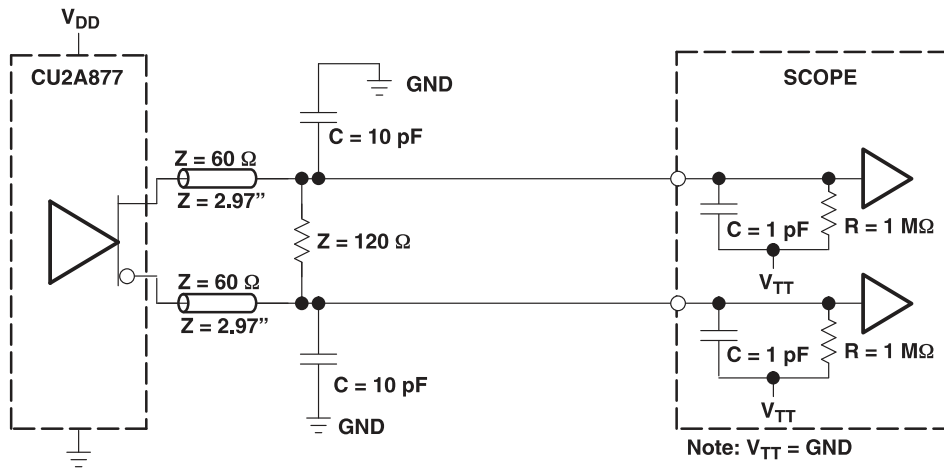
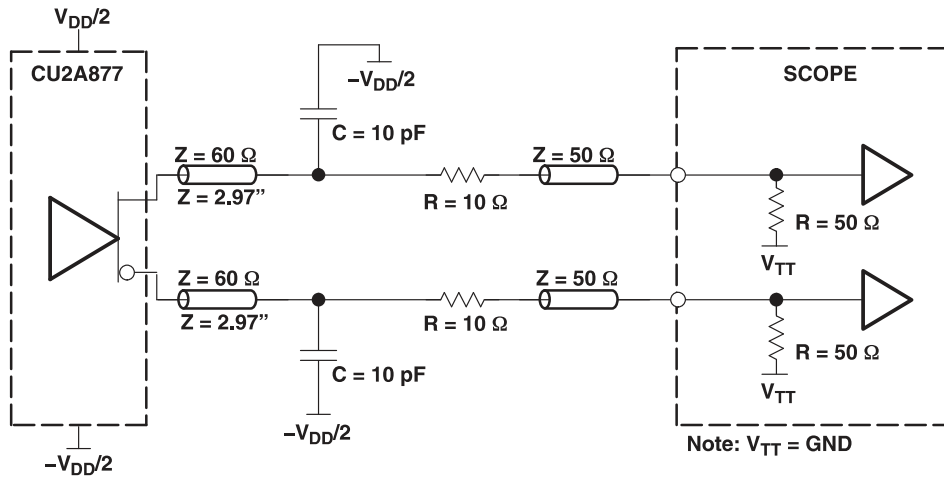
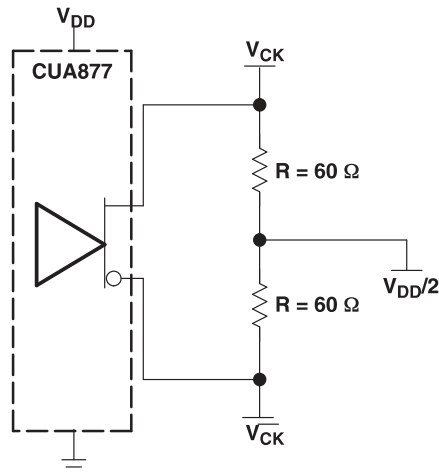

Figure 2. Output Load Test Circuit 1 (Using High-Impedance Probe)
Figure 3. Output Load Test Circuit 2 (Using SMA Coaxial Cable)
Figure 4. IBIS Model Output Load
| I _{OH} | High-level output current (see Figure 2) | | | –18 | mA |
| I _{OL} | Low-level output current (see Figure 2) | | | 18 | mA |
| SR | Slew rate, OE | See Figure 3 and Figure 8 | 0.5 | | | V/ns |
| | Input clock skew rate | See Figure 3 and Figure 8 | 1 | 2.5 | 4 | |
| | Output clock slew rate ⁽⁷⁾⁽⁸⁾ | See Figure 3 and Figure 8 | 1.5 | 2.5 | 3 | |
| V_{OX} | Output differential-pair cross voltage ⁽⁹⁾ | See Figure 2 | $(V_{DDQ}/2) - 0.1$ | $(V_{DDQ}/2) + 0.1$ | | V |
- (1) There are two different terminations that are used with the following tests. The load/board in Figure 2 is used to measure the input and output differential-pair cross voltage only. The load/board in Figure 3 is used to measure all other tests. For consistency, equal length cables must be used.
- (2) This parameter is assured by design and characterization.
- (3) Phase static offset time does not include jitter.
- (4) For full frequency range of 160MHz to 410MHz.
- (5) Period jitter, half-period jitter specifications are separate specifications that must be met independently of each other.
- (6) In the frequency range of 271 MHz to 410 MHz, the minimum and maximum values of $t_{jit(per)}$ and $t_{(\phi)dyn}$ and the maximum value for $t_{sk(o)}$ must not exceed the corresponding minimum and maximum values of the 160 MHz to 270 MHz range. In addition, the sum of the specified values for $|t_{jit(per)}|$, $|t_{(\phi)dyn}|$, and $t_{sk(o)}$ must meet the requirements for the $\Sigma t_{(su)}$ and the sum of the specified values for $|t_{(\phi)dyn}|$ and $t_{sk(o)}$ must meet the requirements for the $\Sigma t_{(h)}$.
- (7) The output slew rate is determined from the IBIS model into the load shown in Figure 4.
- (8) To eliminate the impact of input slew rates on static phase offset, the input skew rates of reference clock input CK and \overline{CK} and feedback clock inputs FBIN and \overline{FBIN} are recommended to be nearly equal. The 2.5-V/ns skew rates are shown as a recommended target. Compliance with these typical values is not mandatory if it can adequately shown that alternative characteristics meet the requirements of the registered DDR2 DIMM application.
- (9) Output differential-pair cross voltage specified at the DRAM clock input or the test load.